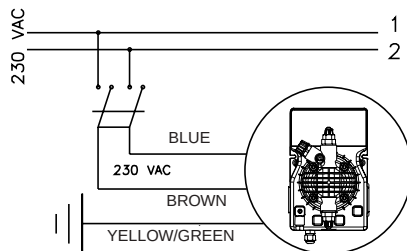

Fig. 4
- b. - Carefully observe the regulations in force in the various countries as regards electrical installations (Fig.4). **When the supply cable is devoid of a plug, the equipment should be connected to the supply mains by means of a two-poles switch having a minimum distance of 3 mm between the contacts. Before accessing any of the electrical parts, make sure that all the supply circuits are open.**